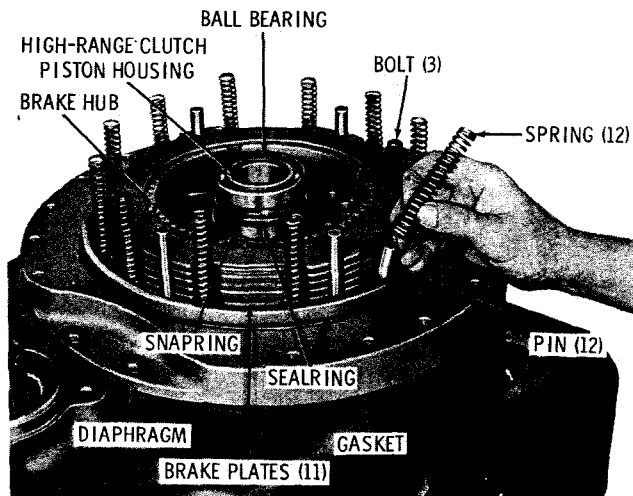

Fig. 5-24. Removing brake return springs and guide pins (TTB 2221-1, 2421-1)
(1) Remove twelve brake return springs and twelve guide pins from the recesses in the diaphragm (fig. 5-24). Remove the eleven brake plates from the brake hub. Remove the ball bearing from the hub of the high-range clutch piston housing.
(2) Remove the step-joint sealring from the brake hub (fig. 5-24). Remove the snapring that retains the brake hub, and remove the brake hub. Remove the sealring from the diaphragm.
(3) Remove the three bolts and lockwashers that retain the diaphragm on the transmission housing (fig. 5-24). Remove the diaphragm assembly and gasket. Refer to paragraph 6-16 for diaphragm assembly rebuild instructions.